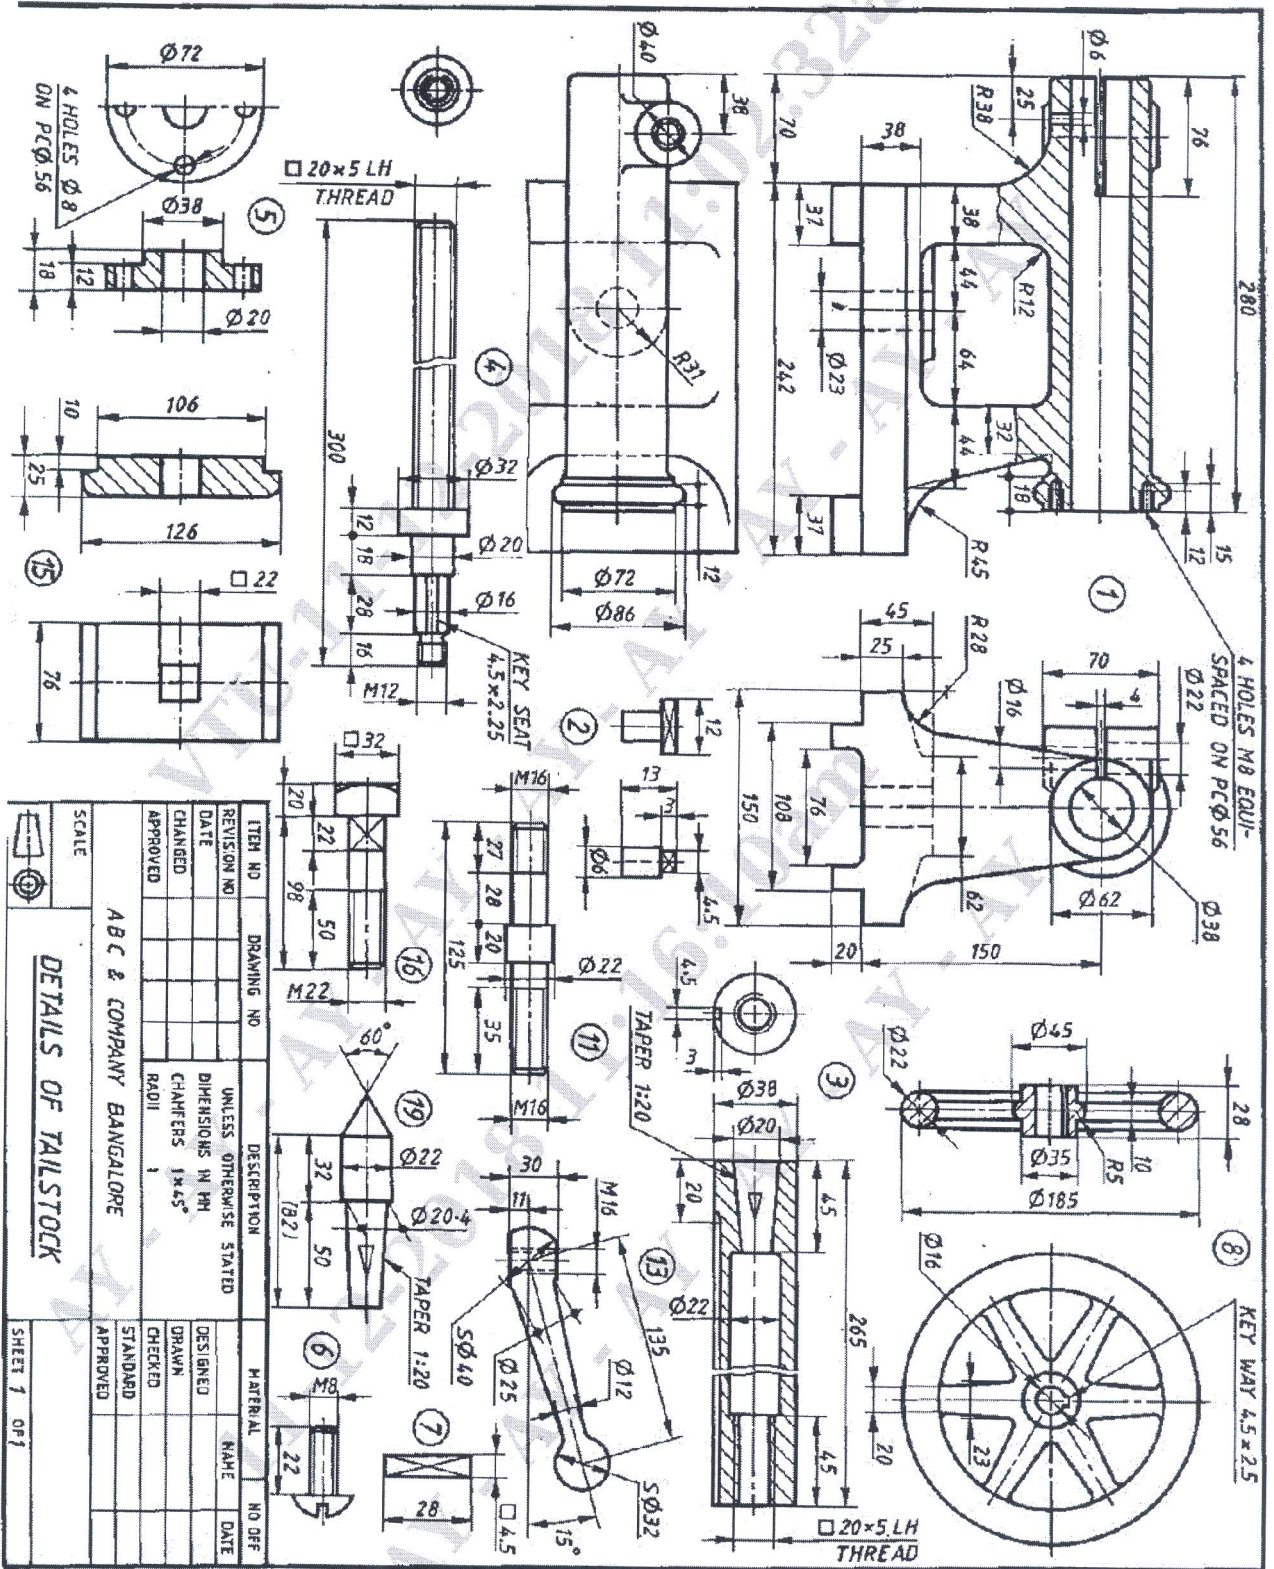

Figure 3: Details of tail-stock
Q.No.6 Figure 3 shows the part drawing of a "TAIL-STOCK". Assemble the Parts and show the following views.